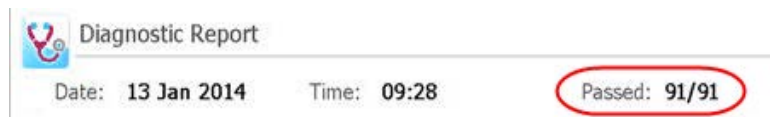

Figure 17 Diagnostic report banner, with the test results circled in red
- 9 Check the diagnostic report. The banner at the top of the report lists the number of tests that passed out of the total number of test performed (see Figure 17).